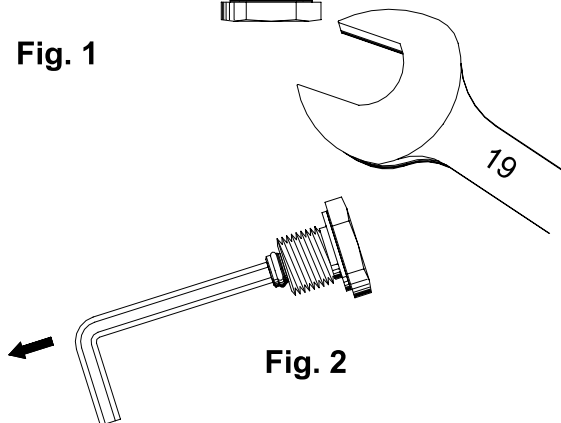

Fig. 2
- Located inside the return plug is the by-pass plug. Remove it with a 4 mm Allen wrench (Fig. 2).